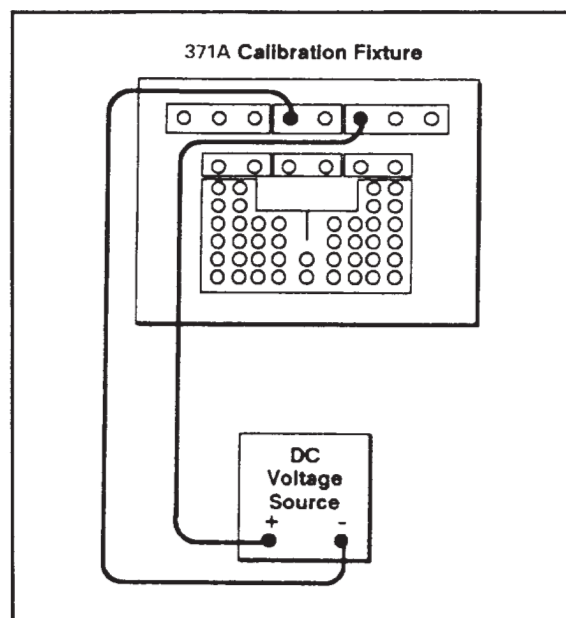

Figure 4-2. Setup for determining voltage measurement accuracy.
4. Connect the voltage source between the COMMON and STEP GENERATOR VOLTAGE terminals using two long patch cords as shown in Figure 4-2.